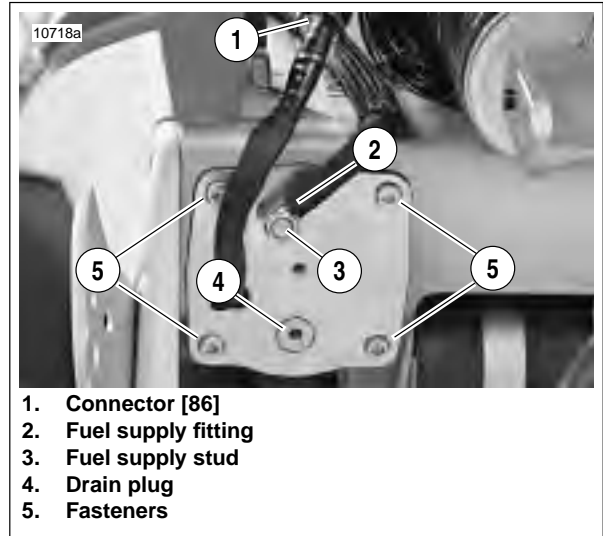
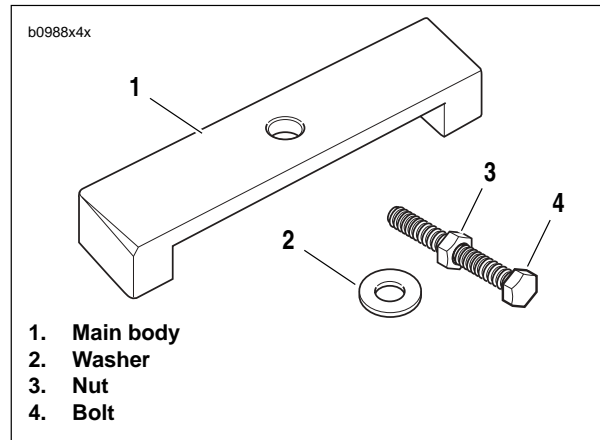
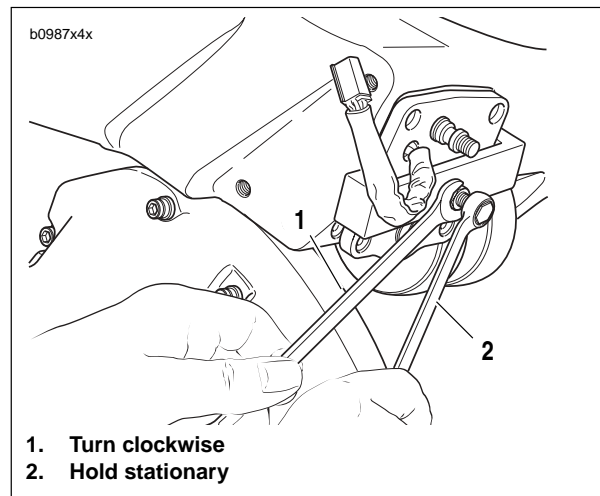

Figure 4-91. Fuel Pump Installation
Figure 4-92. Fuel Pump Puller
Figure 4-93. Fuel Pump Removal
- a. See Figure 4-91. Disconnect the 4-place fuel pump connector (1) [86]. Connector is located inside the left rear portion of the fuel tank/frame.
4. See Figure 4-91. Remove fuel line from fuel supply fitting (2).
5. Remove four fuel pump fasteners (5).
6. See Figure 4-92. Assemble fuel pump puller.
- a. Thread nut (3) onto bolt (4).
- b. Slide washer (2) onto bolt.
- c. Insert bolt assembly into hole in main body (1).
7. See Figure 4-93. Place the main body of the fuel pump puller over the fuel pump assembly.